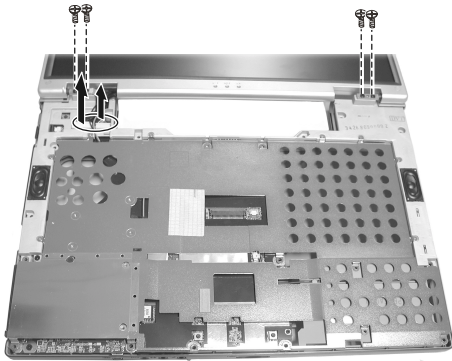

Figure 2-22 Remove the four screws and Disconnect the two cables
6. Disconnect the two cables and remove the four screws. (Figure 2-22)